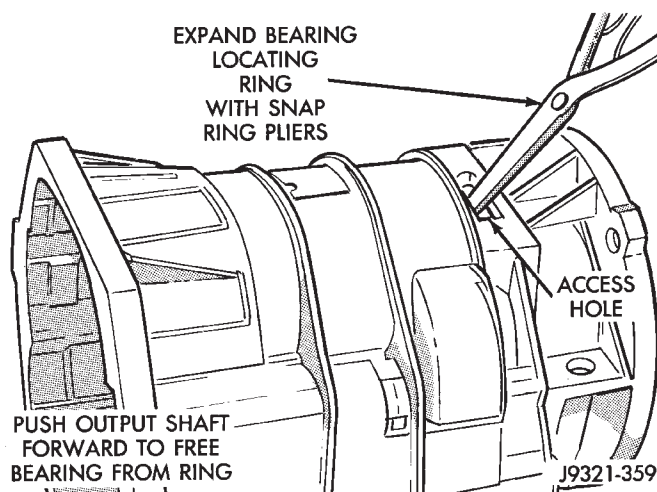

Fig. 15 Releasing Bearing From Locating Ring
(5) Expand output shaft bearing snap ring with expanding-type snap ring pliers. Then push output shaft forward to release shaft bearing from locating ring (Fig. 15).